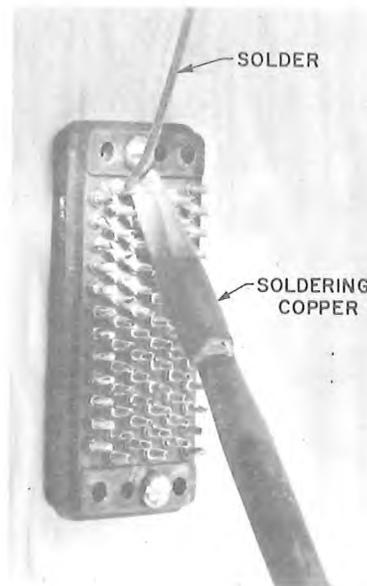

Fig. 46 — Filling Terminals of Miniature Connector with Solder
- Mount the miniature connector vertically on a board, and fill all the terminals with solder as shown in Fig. 46. Use the 0.035 solid-wire solder of 60 per cent tin and 40 per cent lead, containing antimony and bismuth, furnished by the Western Electric Company.